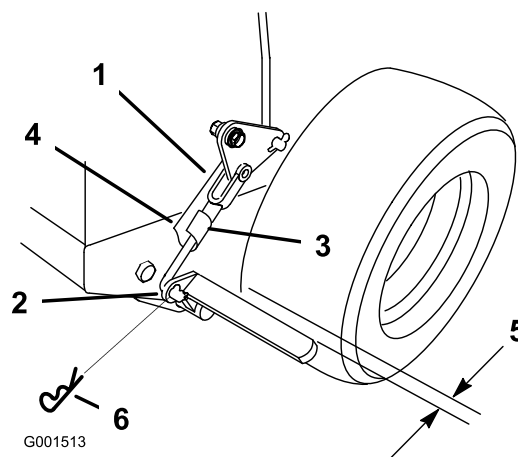

Figure 42
3. Remove the spring hair pin from the lower brake link (Figure 42).
4. Rotate the lower brake link yoke clockwise into the yoke to tighten the parking brake; rotate the brake link yoke counterclockwise out of the yoke out to loosen the parking brake (Figure 42).
Note: There should be approximately 1/4 inch clearance between the tyre and the flat bar when the parking brake in the released position (Figure 42).
5. Secure the lower link to the lower brake lever with the hair pin cotter and the clevis pin (Figure 42).